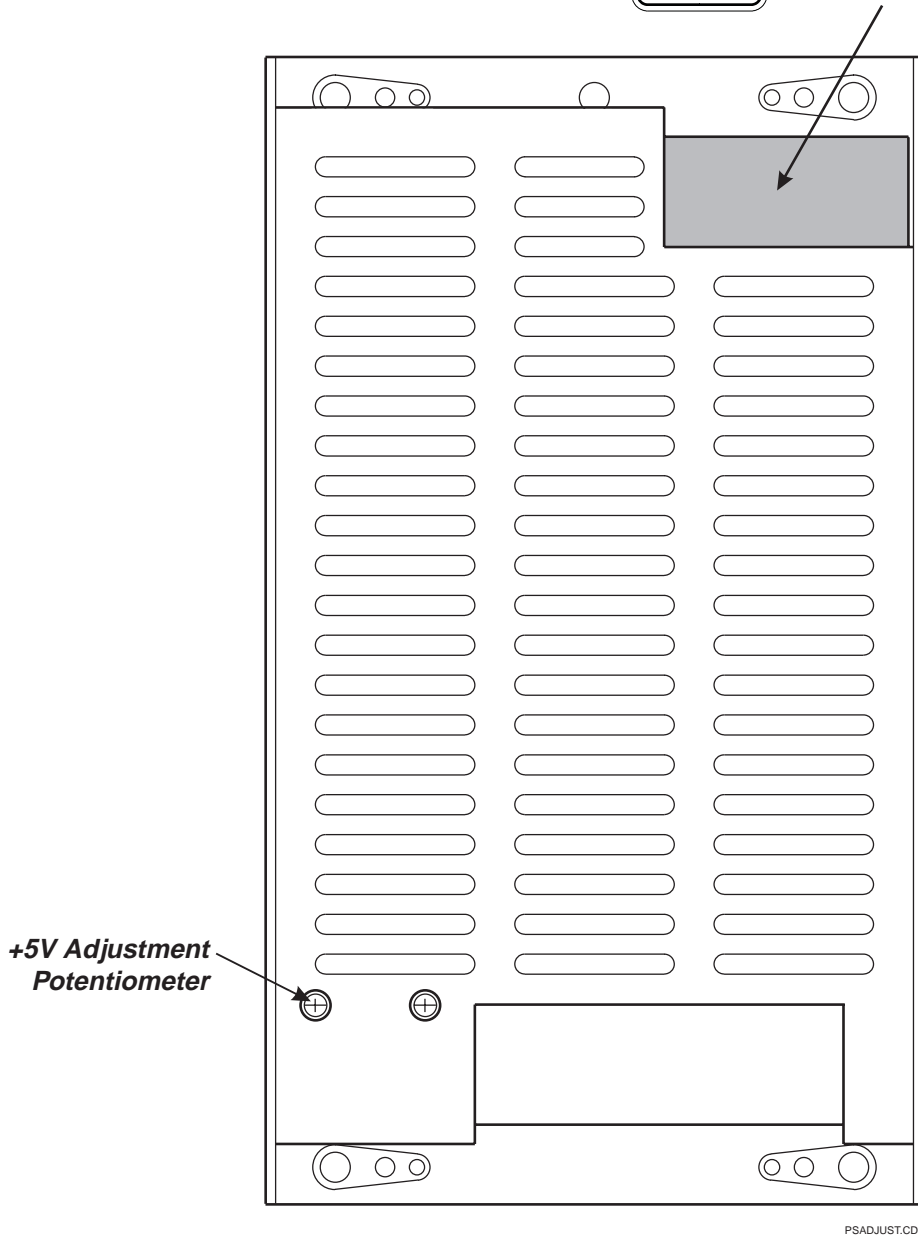

Figure C-3. Di-Metric Plus Power Supply +5 VDC Adjustment
6. Plug in and power up the Contour Projector. When the machine is powered up, do not touch the area of the power supply where AC power is present (see Figure C-3).
7. Locate the two small holes in the lower left part of the power supply case. The +5 VDC potentiometer is beneath the left hole (see Figure C-3).
8. Use a small insulated screwdriver to adjust the voltage of the +5 VDC potentiometer. While observing the results on the multimeter, turn the potentiometer clockwise to increase voltage or counterclockwise to decrease voltage until the multimeter displays a reading between 4.75 and 5.25 VDC. If you cannot adjust the voltage to fall within this range, call the OGP Service Department at (716) 544-0400 to order a replacement power supply.